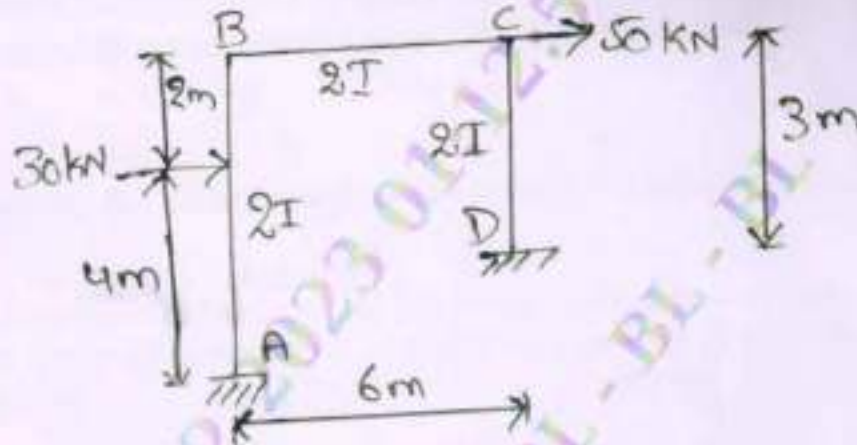

Fig. Q4
- 4 Analyze the frame shown in Fig. Q4 by moment distribution method and draw bending moment diagram.